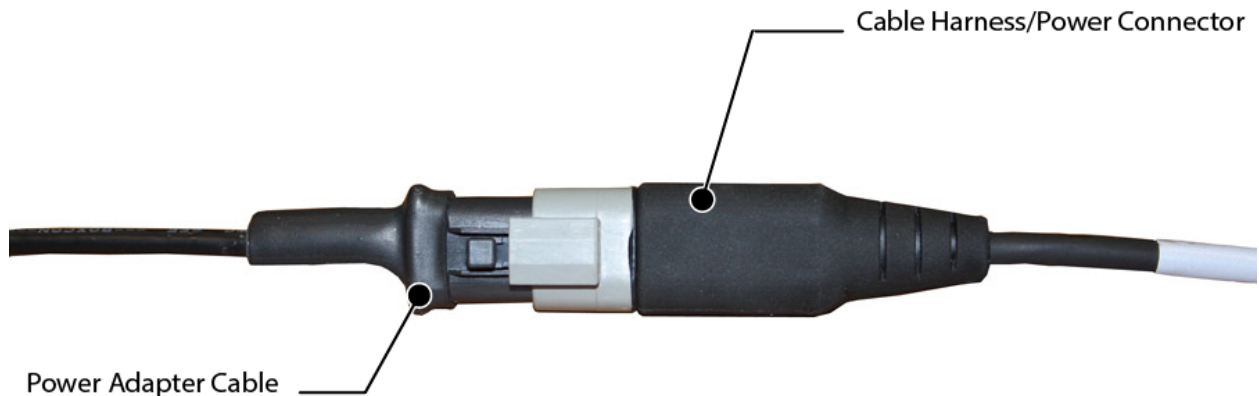

Figure 6: Power Adapter Cable to the Power Connector
3. Connect the adapter cable to the power connector of the cable harness, as shown in Figure 6.